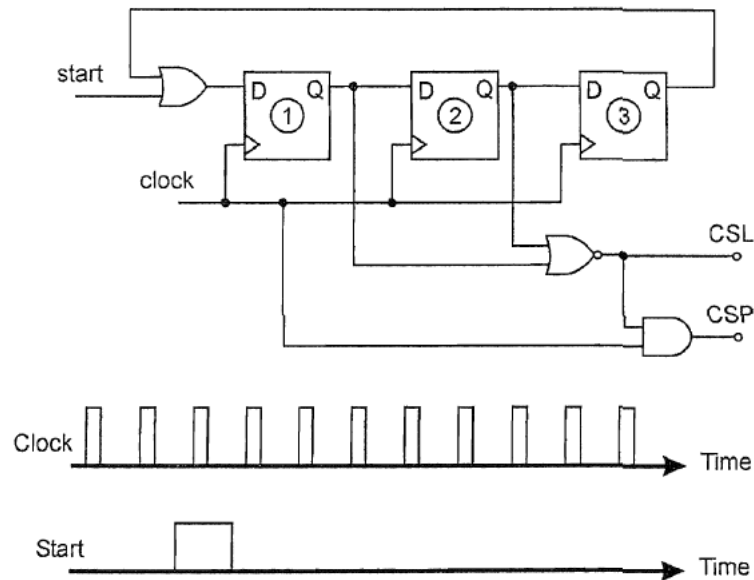

Figure 5
- (b). Figure 5 shows a simple sequencer built from positive edge triggered D-type flip flops. Initially all the flip-flop states are zero and then a start